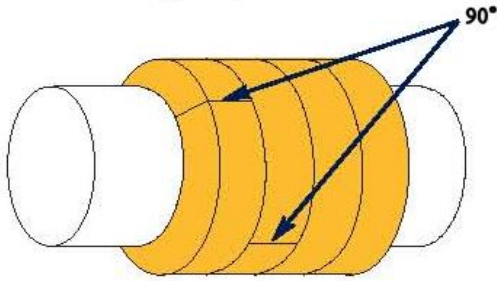

Figure 8. Packing Alignment
6. Check the shaft (6) for nicks and score marks; repair or replace as necessary.
8. Install the first ring of packing (180*) with joint at approximately the 1 o'clock position (30° right of vertical). Refer to Figure 8 for packing alignment.